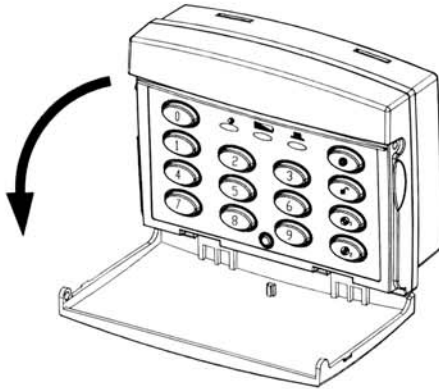

Fig. 4
**Note:** Use thumb and middle finger to hinge off the Keypad cover. (Fig. 4) The Keypad has back light illumination facility. It will illuminate for 5 seconds when opening the Keypad cover or pressing any key.